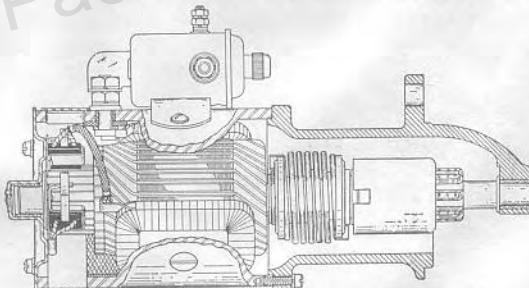

Fig. 20—Auto-Lite MZ-4078 Starter Used on Model 1800
**Repair Data**—The starter used on model 1800 cars is a 4-pole type Auto-Lite model MZ-4078 with Bendix drive. Stalled torque 11.8 pounds-feet at 560 amperes and 4 volts. Running free at 4900 r.p.m. 70 amperes at 5.5 volts. Armature shaft maximum end play  $\frac{1}{16}$  inch. Renewal of ground brush requires re-riveting of holder. Refer to Fig. 20.